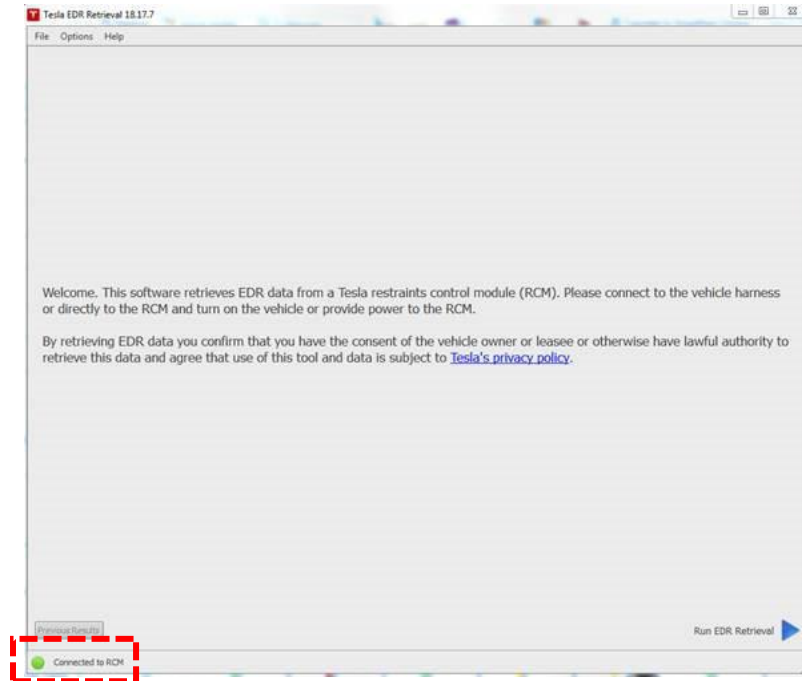

Figure 48. EDR program successful connection
- When connected properly, a green circle and the message “Connected to RCM” displays on the bottom left corner of the window (Figure 48).